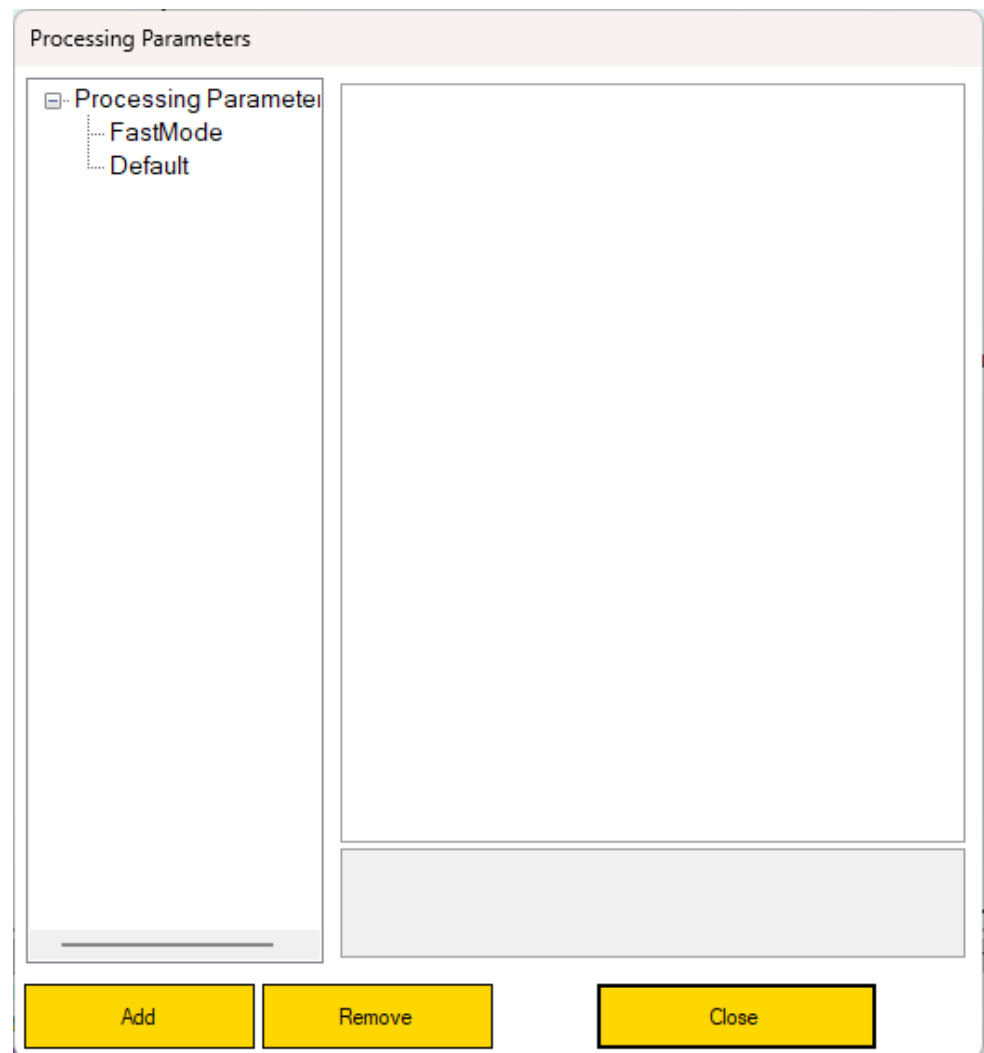

Figure 125: Welding/Marking/Cleaning Parameters
1. Select View ' Processing Parameters. See Figure 125 (below).